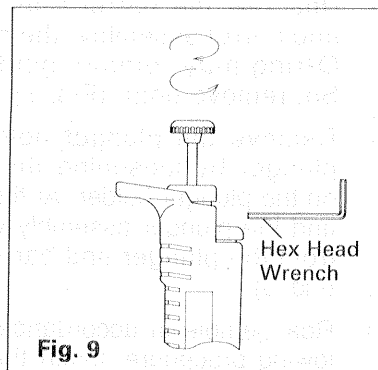

Fig. 9
6. Keeping the hex head wrench inserted into one hex head screw, turn the thumb knob to calibrate the pipette. (Fig. 9)